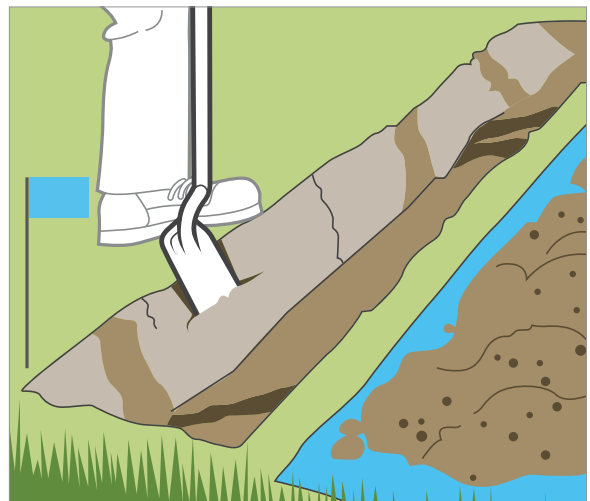

Figure 2
4. Trenching: Check local codes. If there are no established local codes for sprinkler main line depth in your area, trench 10" to 12" deep. Trench 6" to 8" for lateral lines. Trenching can be done by hand or with a trencher. Trenchers are available at most equipment rental yards (*Figure 2*).